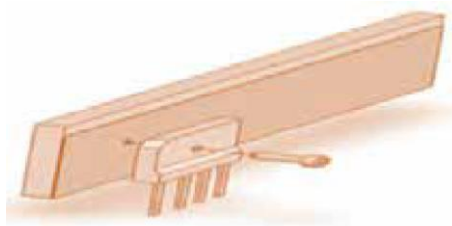

Fig. 2.25: Heat Sink Assembly Insulation Sheet
Step 1. Before starting the LED street light assembly, complete the heat sink assembly. The Heat Sink Assembly Insulation Sheet is shown below in Figure 2.25.